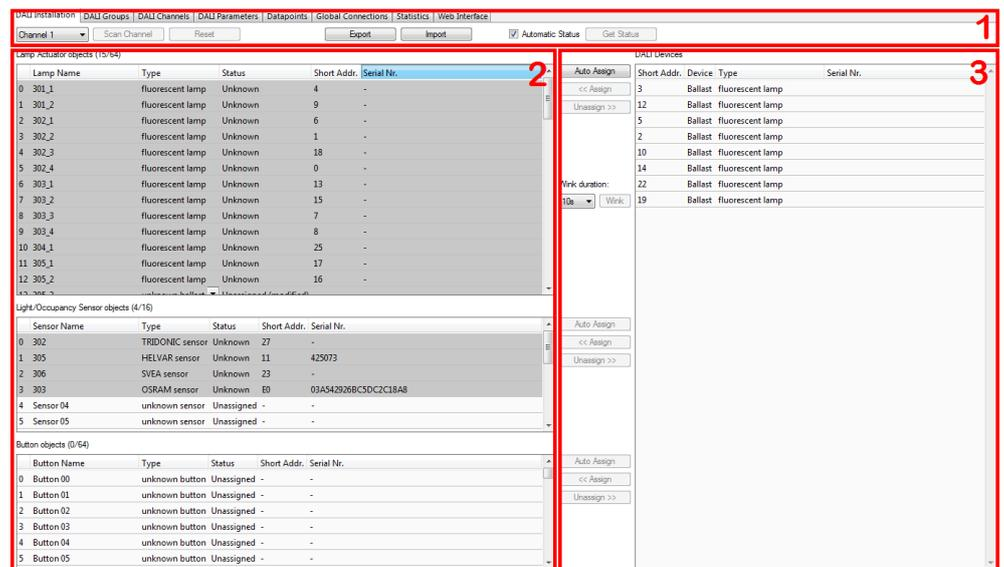
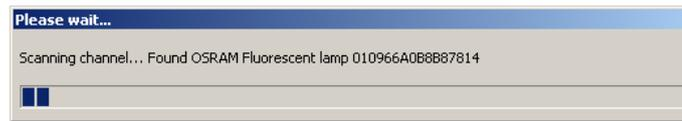

Figure 106: DALI Installation tab.
Figure 107: DALI channel scan progress.
The DALI Installation tab is shown in Figure 106. It is used to scan a DALI channel and assign DALI devices to Lamp Actuator, Light/Occupancy Sensor objects, and Button objects. The dialog is divided into three sections:
- The channel selection and functions section (number 1 in Figure 106).
- The DALI network database with the device assignment (number 2 in Figure 106).
- The DALI network scan results (number 3 in Figure 106).
- The **Scan Channel** button starts a scan of the DALI channel. When pressing the button a window showing the scan progress will be shown (see Figure 107). After the scan the devices found will be listed in the DALI network scan results section (number 3 in Figure 106) of the DALI Installation tab.